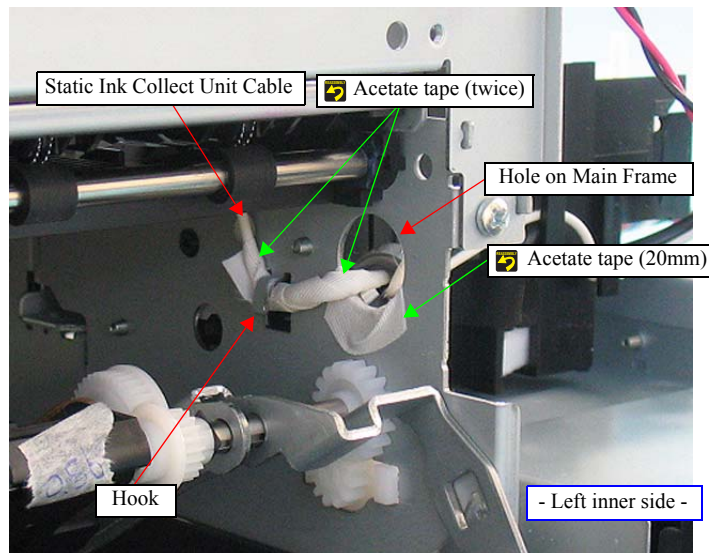

Figure 4-227. Removing the Front Paper Guide & EJ Roller Assy (1)
- Contact point of the hook on the Main Frame and the Static Ink Collect Unit cable. (See Figure.4-227.)
- Contact point of the hole on the Main Frame and the Static Ink Collect Unit cable. (See Figure.4-227.)